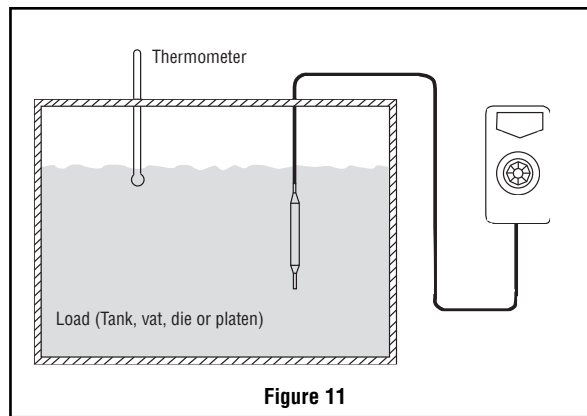

Figure 11
2. With the aid of an accurate thermometer or other temperature measuring device, recalibration may be performed within the process as in Figure 11.